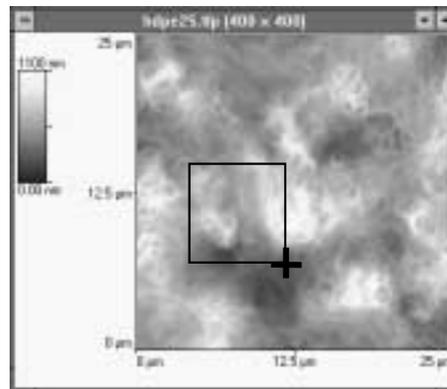

Figure 5-47. Defining the bounding box.
1. Left-click, drag, and release directly on the image, as shown in Figure 5-47. This process can be repeated to redefine the box.